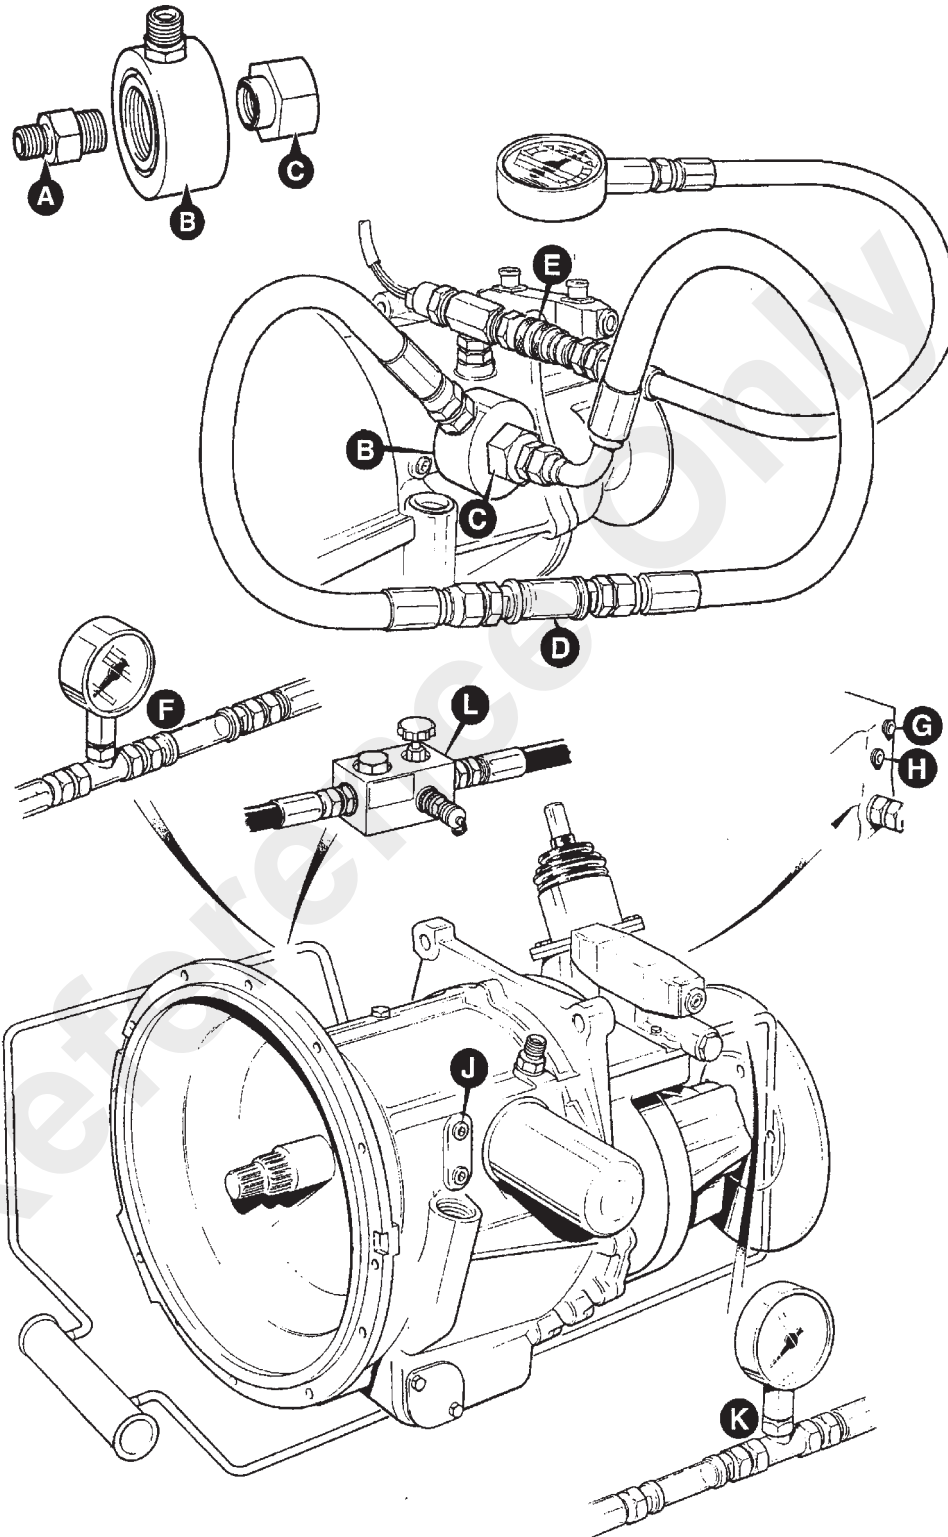

FIGURE 7-8
1. Stop the engine, remove the transmission filter and filter head adapter. Install adapter **A** (Figure 7-8) into the gear box casing. Install test adapter **B** and secure with adapter **C**. Connect a flow meter **D** as shown and connect a 0 - 20.6 bar (0 - 300 psi) pressure gauge to test connector **E**.
7. Stop engine and connect the pressure gauge and flowmeter into the return line from the oil cooler to the transmission as shown in **K** (Figure 7-8). Start the engine, and with the transmission in Neutral check the flowmeter reading, which should show the **Cooler Flow Rate** (see *Technical Data*, page 7-1). The pressure gauge will show the **Lubrication Pressure** (see *Technical Data*, page 7-1). Low flow and pressure readings could indicate a blocked oil cooler.